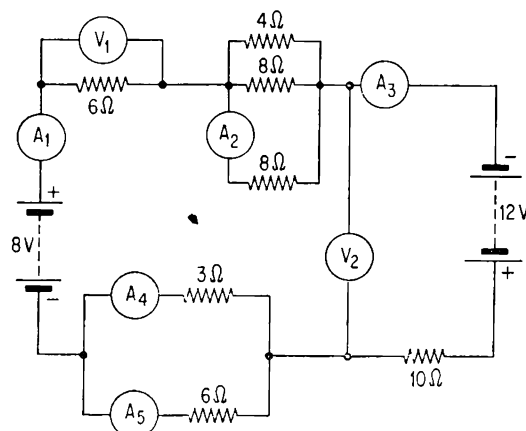

Fig. 79
28. If all the ammeters in Fig. 79 have negligible resistances and all the voltmeters extremely high resistances, state the readings in all the meters.